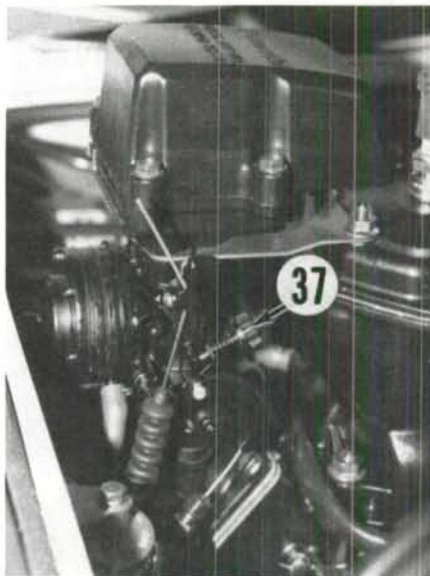

Fig. JS1-8—View identifies location of idle speed screw (37).
engine at normal operating temperature and running. Clockwise rotation of either needle leans the mixture. Adjust low speed mixture needle (22) until smooth acceleration from the idle position is noted. After adjusting low speed mixture needle, adjust idle speed screw (37—Fig. JS1-8) until engine idle speed is approximately 1700-1900 rpm with throttle lever completely released. To adjust high speed fuel:air mixture, the engine spark plug must be removed and insulator tip color noted.